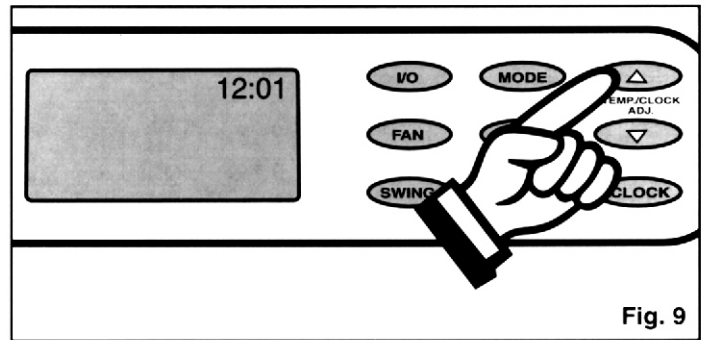

Fig. 9
- 2) Push either the  $\Delta$  or  $\nabla$  key pad, to enter the correct time of day. Each depression of the key pad will increase or decrease the time of day setting (1 minute increments). *Fig. 9.*